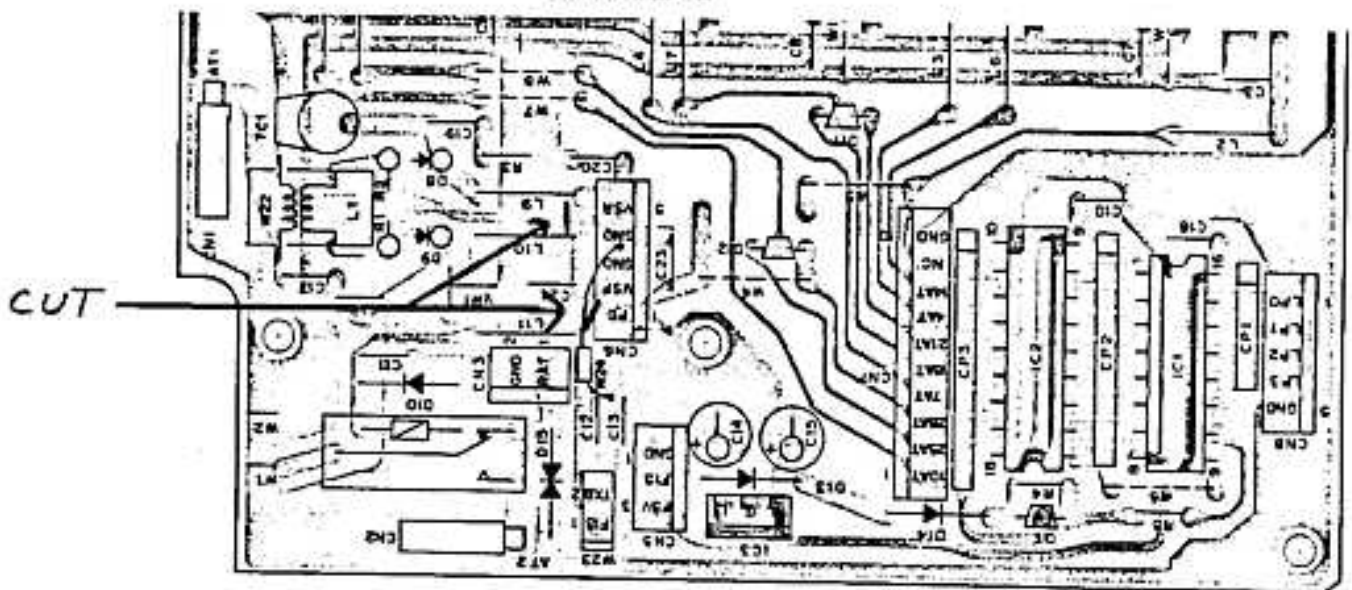

FIGURE 2
8. Cut the two ground foils as shown in figure 2.